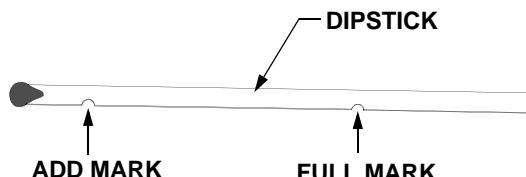

Figure 52
- Always keep the oil level between the full and the add marks on the dipstick. See Figure 52.
- SLOWLY pour oil into the crankcase until the oil level reaches the "FULL" mark on the dipstick. Refer to Figure 52.